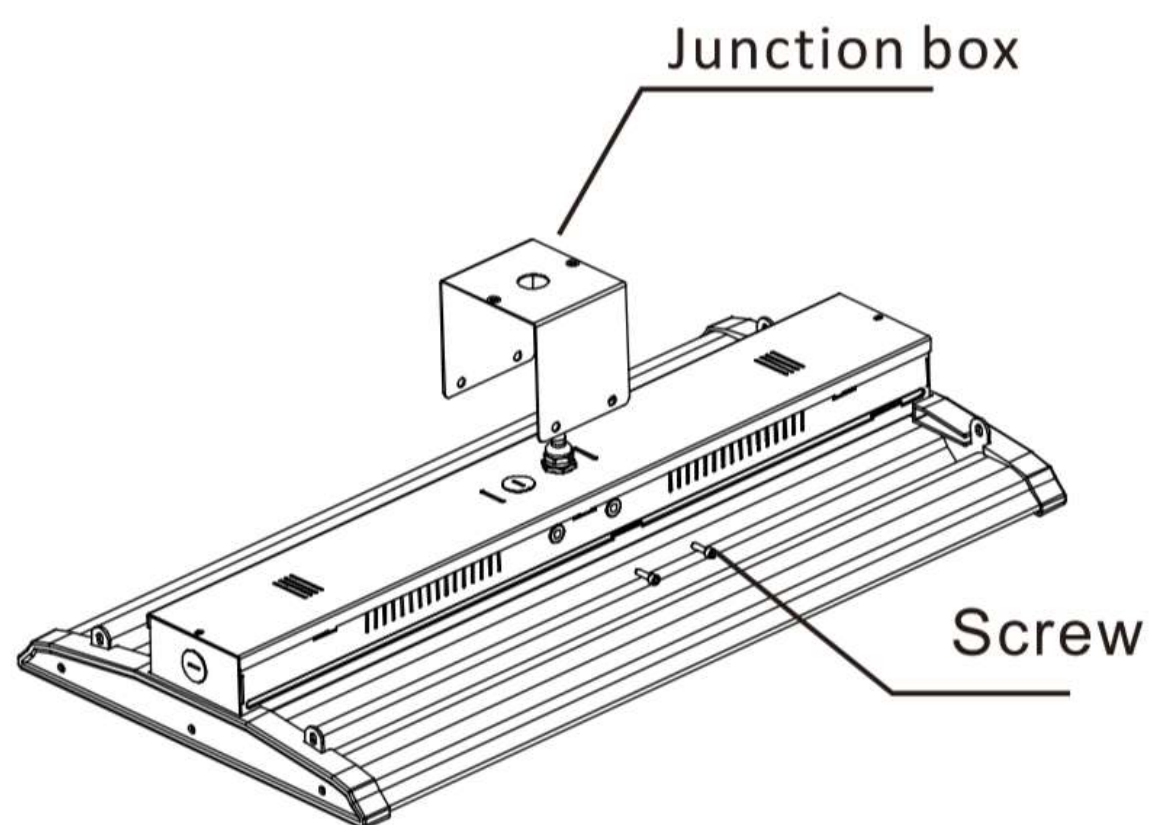

Figure 2
Step 1: Fix the junction box on the driver box with 4pcs screws (Figure 2)